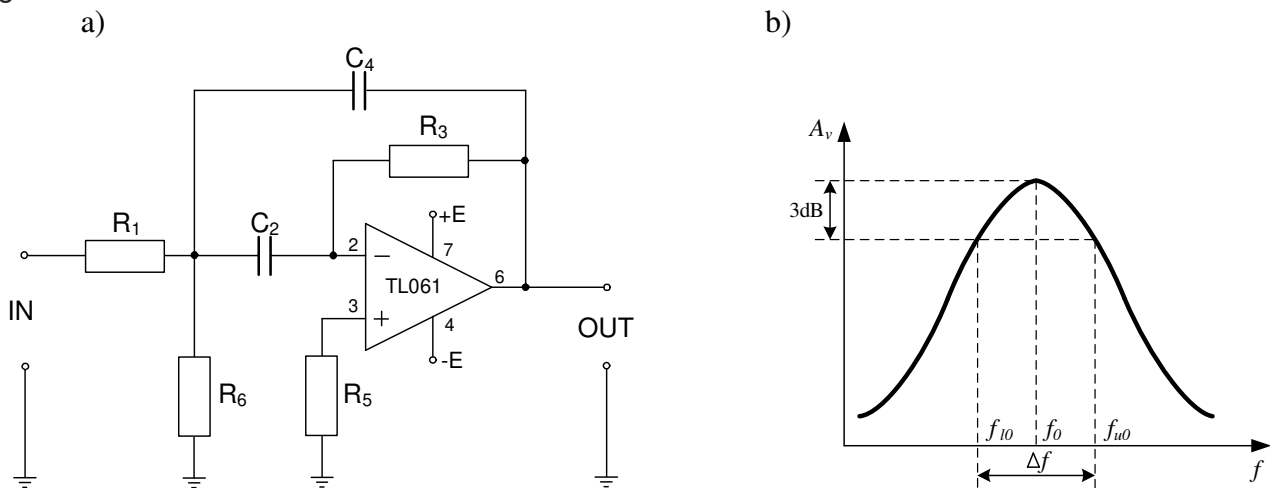

Fig.2. Active band-pass filter: a) implementation, b) transfer function.
Fig. 2 presents the active bandpass filter system implemented in the system structure from Fig.1
Transfer function of the 2nd order band-pass filter from Fig. 2 takes the form of:
1. Assemble the filter according to Fig.2.